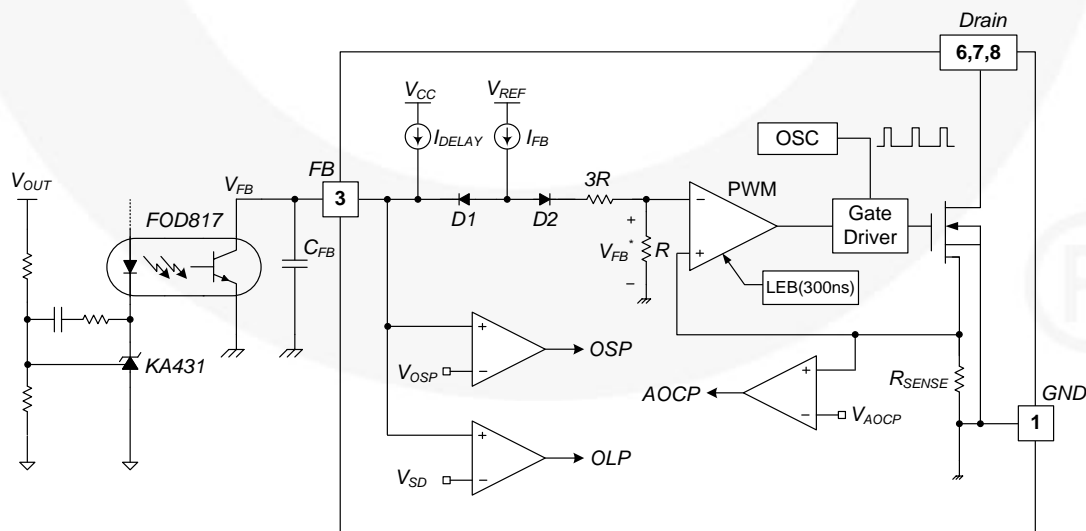

Figure 20. Pulse Width Modulation Circuit
3. Feedback Control: This device employs Current-Mode control, as shown in Figure 20. An opto-coupler (such as the FOD817) and shunt regulator (such as the KA431) are typically used to implement the feedback network. Comparing the feedback voltage with the voltage across the R_{SENSE} resistor makes it possible to control the switching duty cycle. When the reference pin voltage of the shunt regulator exceeds the internal reference voltage of 2.5 V, the opto-coupler LED current increases, pulling down the feedback voltage and reducing drain current. This typically occurs when the input voltage is increased or the output load is decreased.
3.1 Pulse-by-Pulse Current Limit: Because Current-Mode control is employed, the peak current through the SenseFET is limited by the inverting input of PWM comparator (V_{FB}^*), as shown in Figure 20. Assuming that the 90 μ A current source flows only through the internal resistor ($3R + R = 25$ k Ω), the cathode voltage of diode D2 is about 2.8 V. Since D1 is blocked when the feedback voltage (V_{FB}) exceeds 2.84 V, the maximum voltage of the cathode of D2 is clamped at this voltage. Therefore, the peak value of the current through the SenseFET is limited.